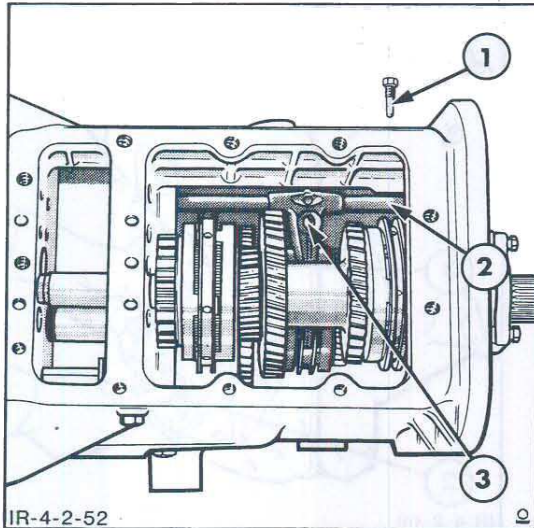

Figure 71
2. Install the lower shift rail locating bolt, Figure 71. Remove the brazing rod used to support the fork from the transmission. Tighten the locating bolt to the specified torque, see "Specifications" – Chapter 3.